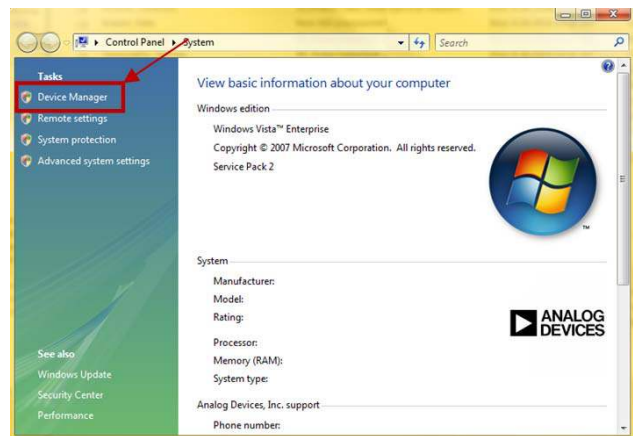

Figure 9. Computer Properties
1. From the **Start** menu, right click **Computer** and select **Properties**. The window shown in Figure 9 should open.